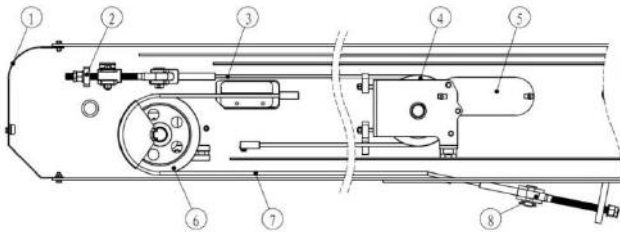

Fig. 1-2 Assembly diagram of telescopic system
- 3) As shown in Figure 1-2, open the rear closure plate 1 of arm, check whether the